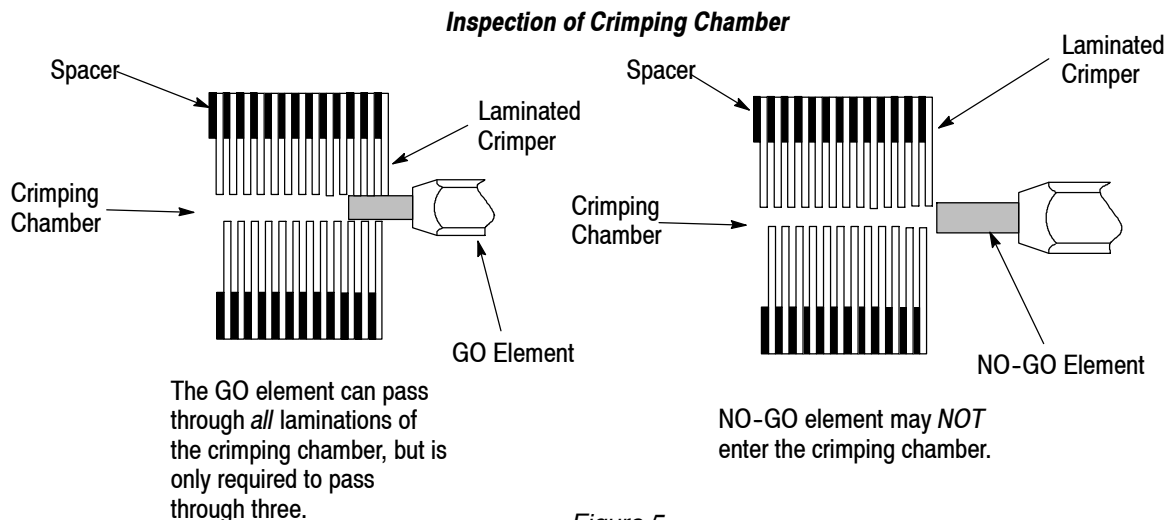

Figure 5
3. Insert the GO element into the crimping chamber from the back side (opposite the tool marking); but do not force it. The GO element must pass through only the first three laminations. See Figure 5.
- Changed the GO element in Figure 5.